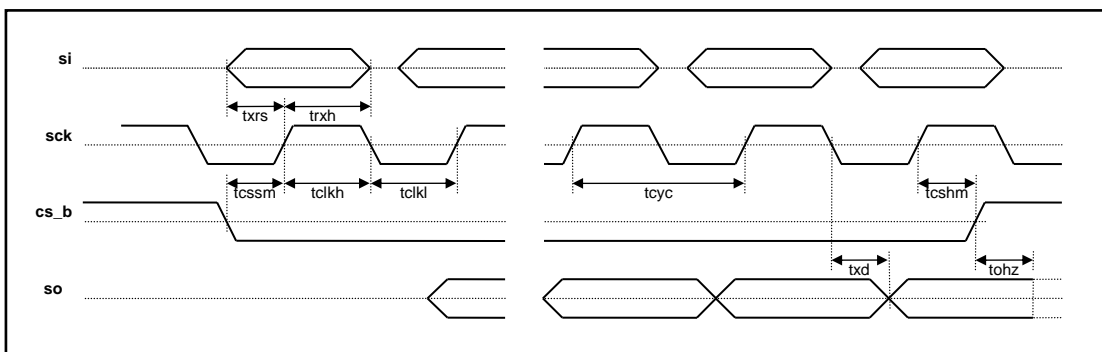

Figure 44. SPI (Serial Peripheral Interface) Timing - MSB First Mode
* For MSB first mode timing diagram, refer to Figure 44